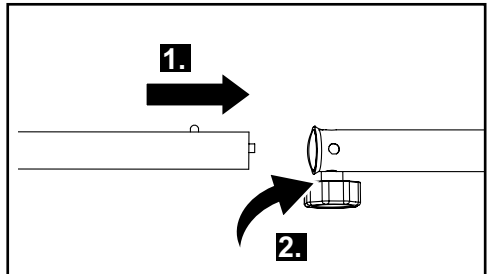

Fig. 5
3. Insert while rotating the lower shaft into the coupler until the button locks into the positioning hole (the fixing hole is opposite the knob), Fig.5